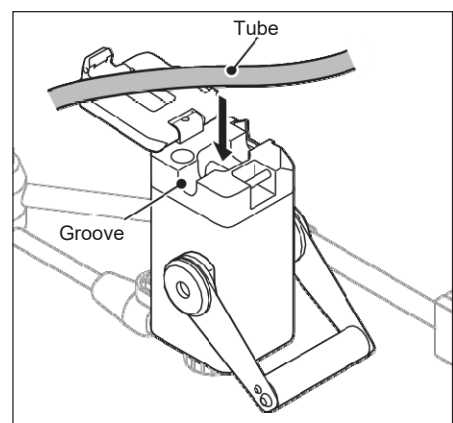

Figure 1-60
5. Insert the tube for the blood line into the Fast Clamp. (Figure 1-60)